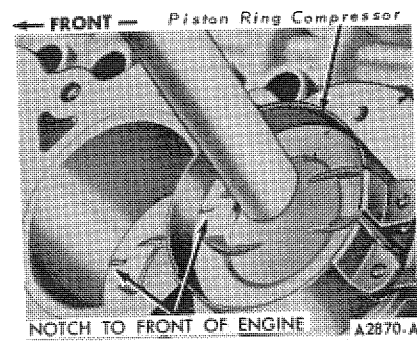

FIG. 64 Installing Piston
4. Install piston ring compressor on the piston and push the piston in with hammer handle until it is slightly below top of the cylinder (Figure 64). Be sure to guide connecting rods to avoid damaging the crankshaft journals. Install the piston with indentation notch in piston head toward the front of the engine.